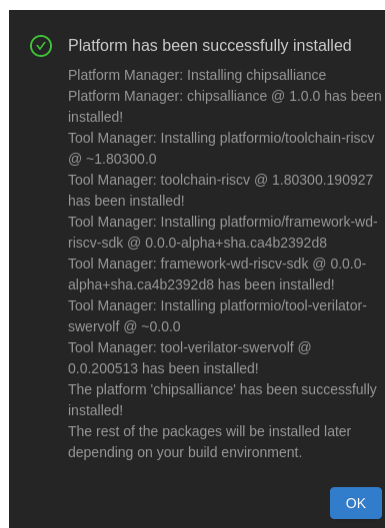

Figure 43. Successful installation of CHIPS Alliance Platform
- Once installation completes, a summary of the tools that have been installed is shown, as in Figure 43. Click  to close that window.